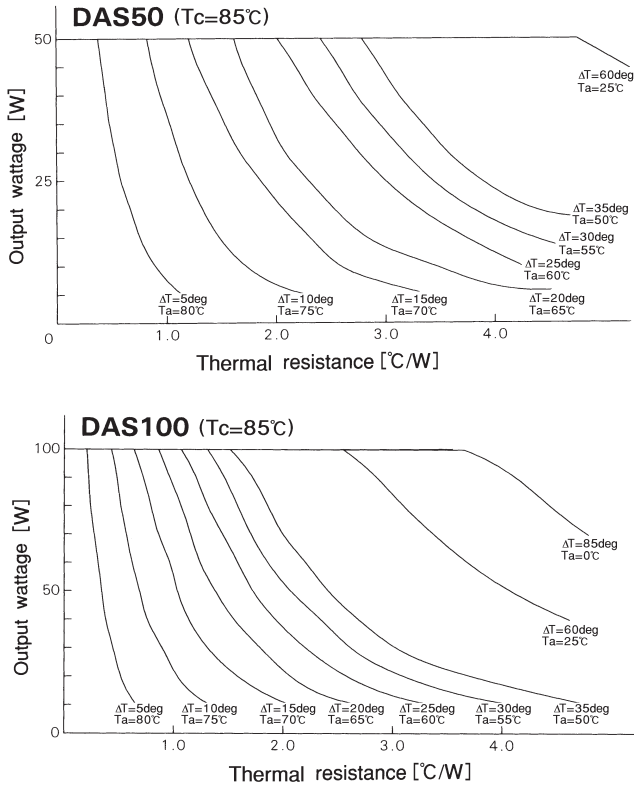

Fig.10.1 Output wattage and the thermal resistance of the heat sink
(1) Fig.10.1 shows the recommended value to use for the thermal resistance of the heat sink in terms of the temperature. It is calculated based on the required output wattage. These values show the thermal resistance of the heat sink with the aluminum base plate temperature at 85°C, in order to obtain maximum reliability, keep the aluminum base plate temperature low.